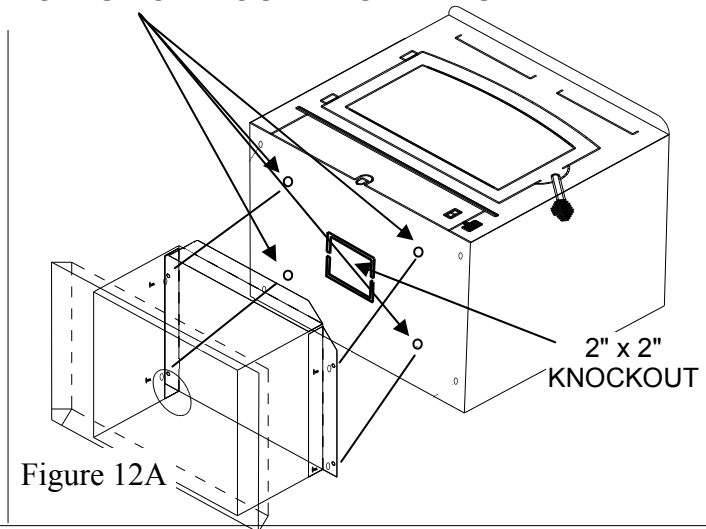

Figure 12A
6. **(Pedestal Kit):** If pedestal kit is being used (**and out side air is required see below, Out Side Air Installation**). Open freestanding kit and obtain stand. Place stand against bottom of heater (angle side to heater). Center stand front to rear and also center stand left and right. Mark screw locations on bottom of stove through outer holes of stand mounting angles. Set stand aside and drill four 7/32" holes in heater bottom. Before attaching heater to the stand, take a large flat screwdriver or pliers and remove 2" x 2" knockout on bottom of unit. (See Figure 12A). Then mount stand to bottom of heater with screws provided. (See Figure 12A).
7. Obtain four (4) 3/16" self-tapping screws and secure stand to heater.